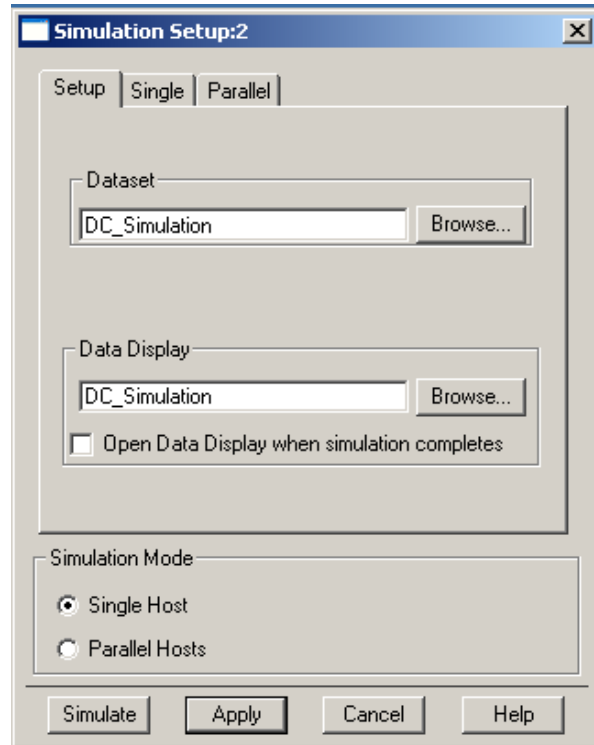

Figure 7: Simulation setup
10. Now that we have created our circuit we are ready to simulate. For this circuit we will be doing a DC simulation. Choose the “Simulation-DC“ library. Place a DC simulation controller on your schematic by clicking on this icon  and then clicking in your schematic window. When we run the simulate command, all the simulation controllers are run. In this case we only have one simulation controller: DC simulation. Before we simulate, run simulation setup by choosing **Simulate->Simulation Setup**. The dialogue box in Figure 7 below should appear. Set the settings as shown. Make sure the “Open Data Display when simulation completes” checkbox is disabled. We will be displaying our DC simulation results directly on the schematic rather than in a separate “Data Display” window. Press the “Apply” button to save the settings and then the “Cancel” button to close the dialogue box.